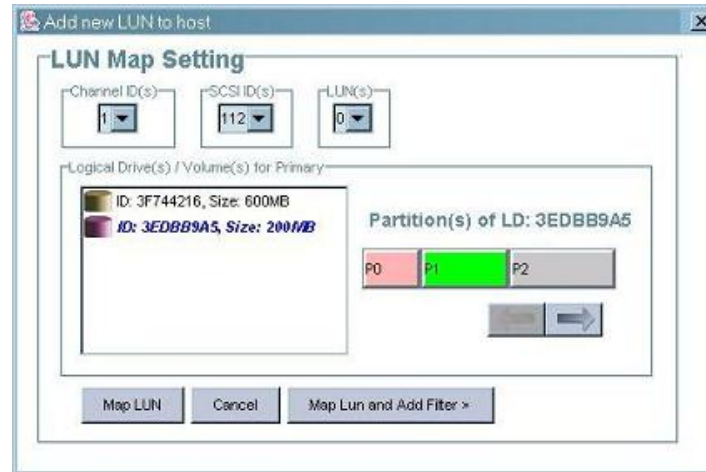

Figure 10-3: LUN Map Setting Window
Step 3. After selecting the ID, the **LUN Map Setting** window appears as shown in *Figure 10-3*.
- Step 2.** Follow the steps listed in *Section 10.1* above to access the *Host LUN Mapping* window shown in *Figure 10-3*.
Step 2. Follow the steps listed in *Section 10.1* above to access the *LUN Map Setting* window shown in *Figure 10-3*.